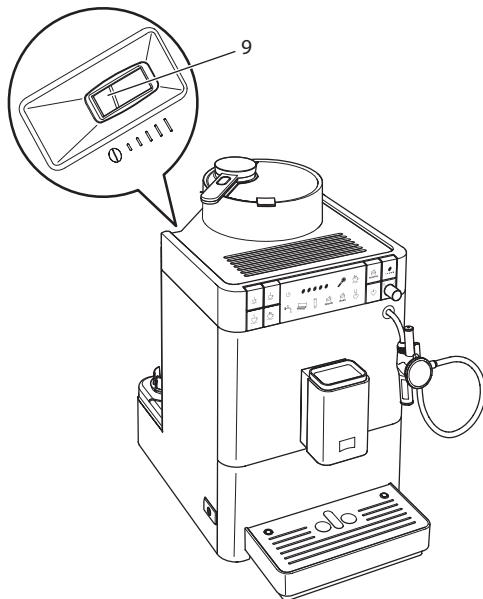

Fig. 14: Lever for setting the grinding fineness (Caffeo® Varianza® CS)
2. Move the lever to the left or right, as shown on Fig. 14.